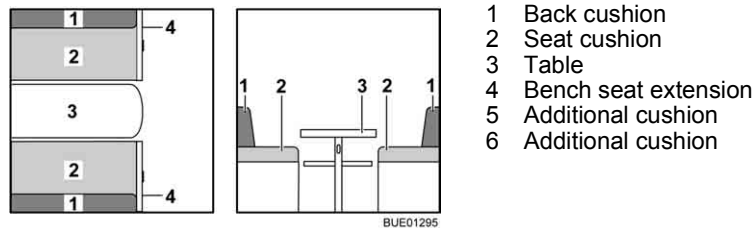

Fig. 123 Prior to conversion
- Extend the table (Fig. 123,3) and convert it into a bed foundation (see section 6.11).